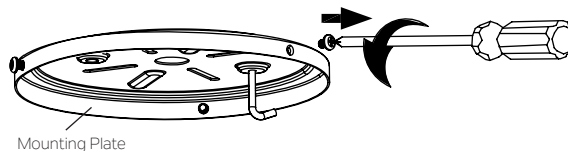

Fig. 10
**Step 1.** Remove one of the three screws from the mounting plate and keep for later use. Loosen the other two (do not remove). (Fig.10 )